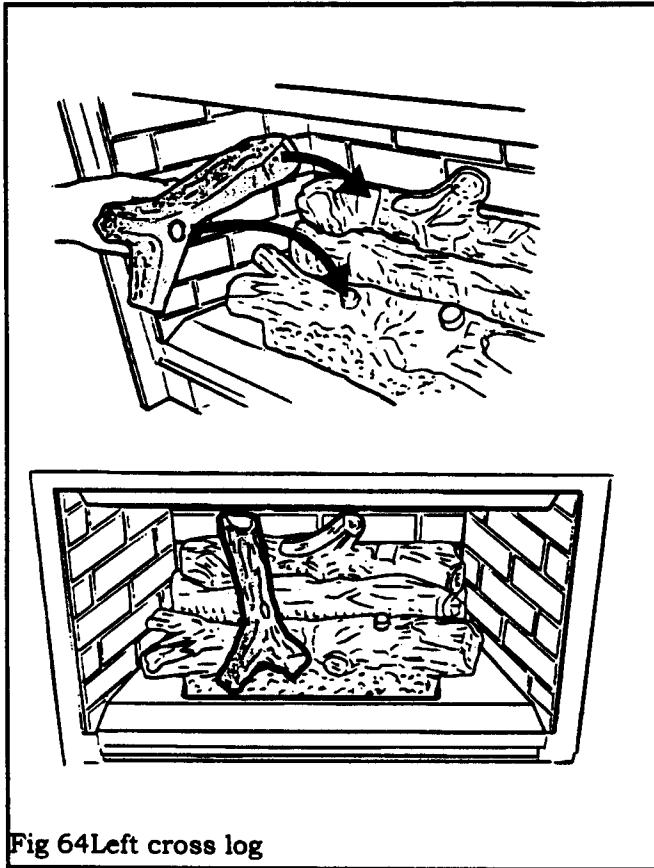

Fig 64 Left cross log
18.6 Place the left cross log (stamped "L" underneath) over the front and rear logs. Locate the cross log over the peg in the front log and into the channel in the rear log (fig. 64).